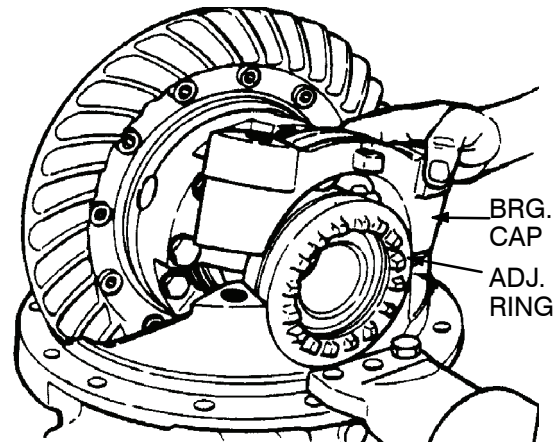

Figure 70.
- (3) Install bearing caps in correct location, as marked, and tap lightly into position. Refer to Figure 70.